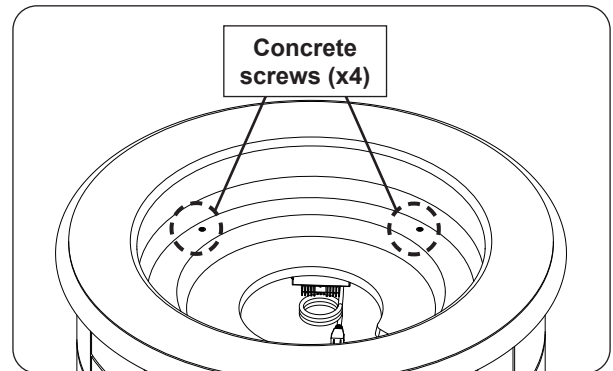

Fig. 30-3 Remove concrete screws
1. Remove the 4 concrete screws from the refractory panel (see Fig. 30-3).